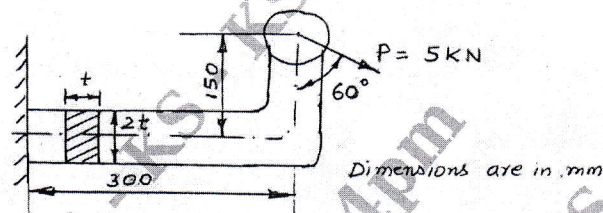

Fig. Q1 (c)
c. A bracket with a rectangular cross section is shown in Fig. Q1 (c). The depth of cross section is twice the width. The force P acting on the bracket at  $60^\circ$  to vertical is 5 kN. The material of the bracket is grey cast-iron FG200 and the factor of safety is 3.5. Determine the dimensions of the cross section of the bracket.